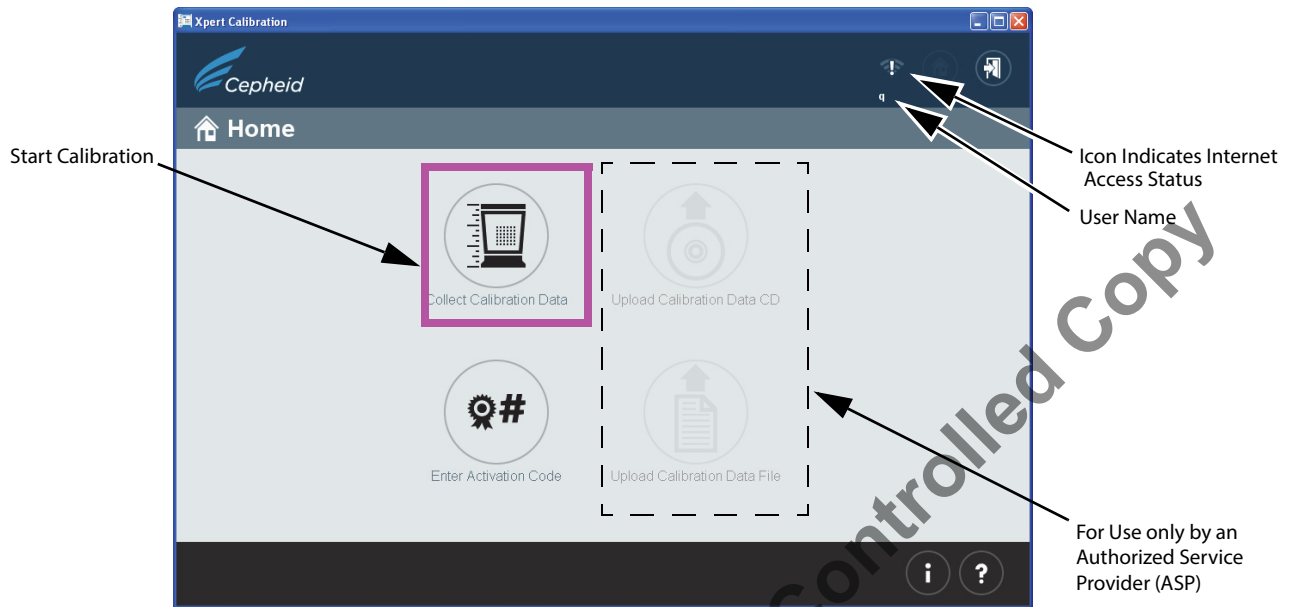
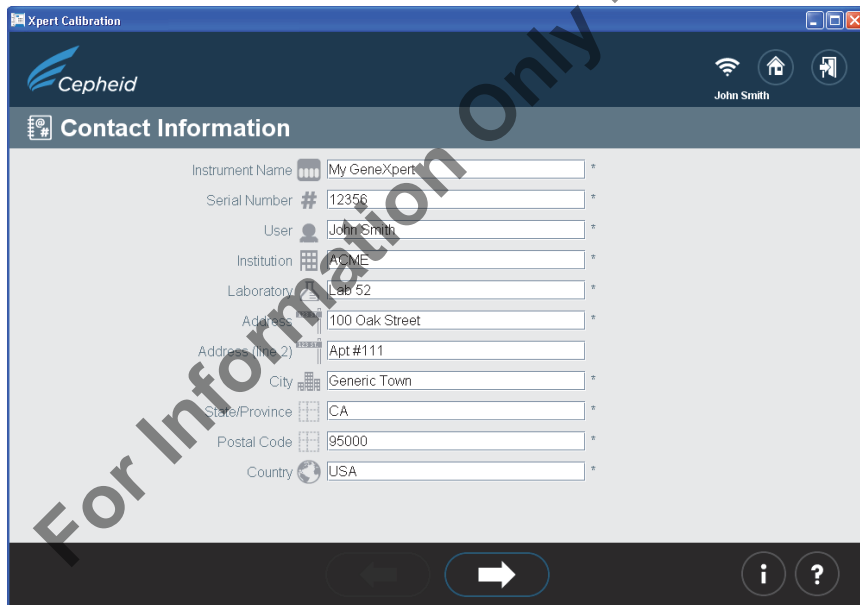
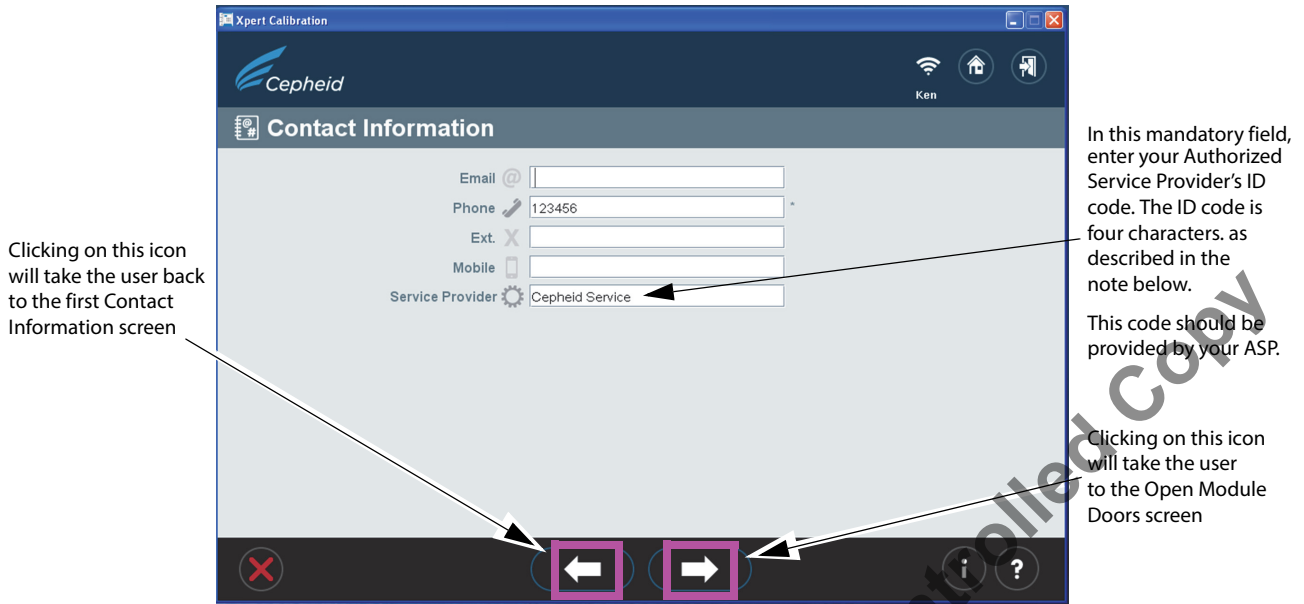

Figure 4. Home Screen
Figure 5. Contact Information Screen - Page 1
Figure 6. Contact Information Screen - Page 2
- Click the **Collect Calibration Data** icon on the **Home** screen (See Figure 4). After a few seconds, the first **Contact Information** screen (Figure 5) will appear.
- When the first of two **Contact Information** screens appear (see Figure 5 and Figure 6), fill out the fields in the two screens. Use the large navigation arrows at the bottom of the screens to move between the two screens.